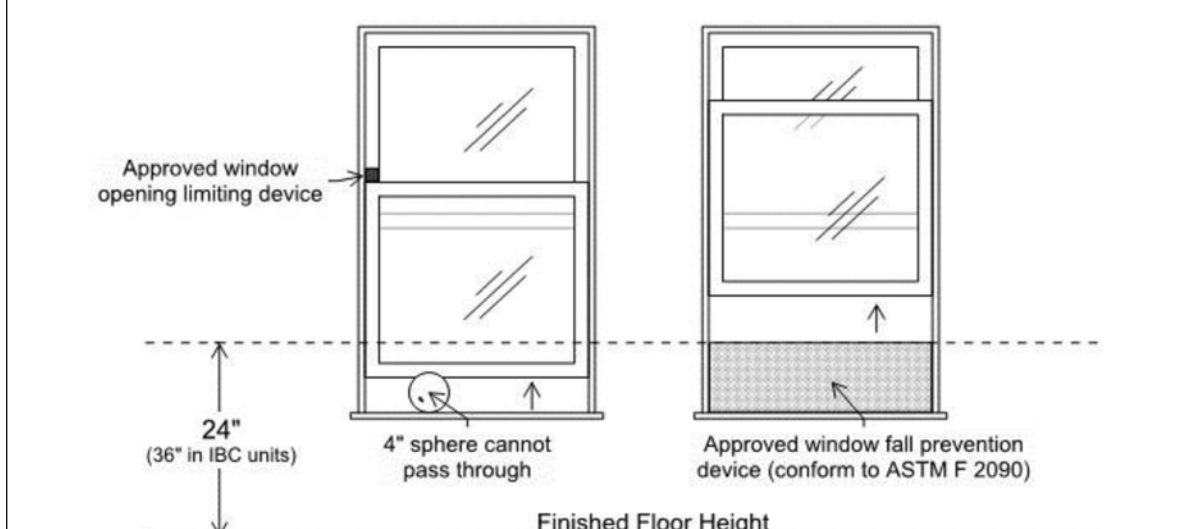

Figure 2: Window fall protection
- Operable windows with openings that, when in their largest opened position, will not allow the passage of a 4-inch sphere (see Figure 2).
- Operable windows that are provided with opening control or fall prevention devices that comply with ASTM F 2090 (see Figure 2) (IBC 1015.8.1).
- In dwelling units regulated by the IBC where the sill height of an operable window above exterior finished grade is more than 75 feet, provide window fall prevention devices complying with ASTM F 2090 (see Figure 2).